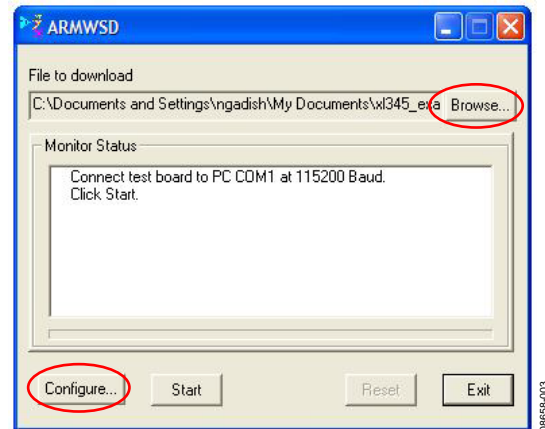
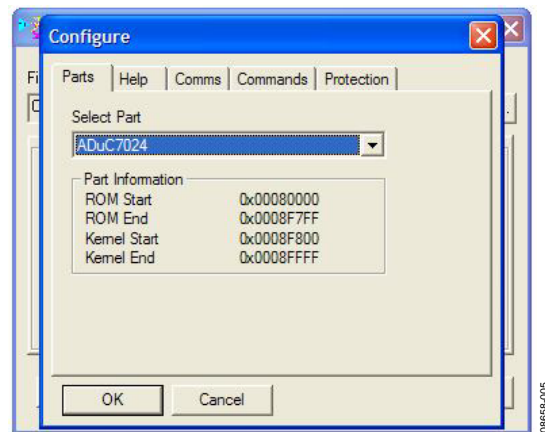

Figure 3. ARMWSD Window
Figure 4. ARMWSD Configure Window: Parts Tab
3. Click **Configure...** (see Figure 3) and select the **Parts** tab, shown in Figure 4. Make sure the **ADuC7024** is selected in the **Select Part** pull-down list (see Figure 4). Additionally, in the **Comms** tab, make sure the **Baudrate** is set to 115200, and the **Serial Port** is set to COM1, and then click **OK**.
4. In the ARMWSD window, click **Browse...** (see circled in Figure 3) and navigate to the location of the .hex file to be loaded onto the board. Select the file and click **Open**.